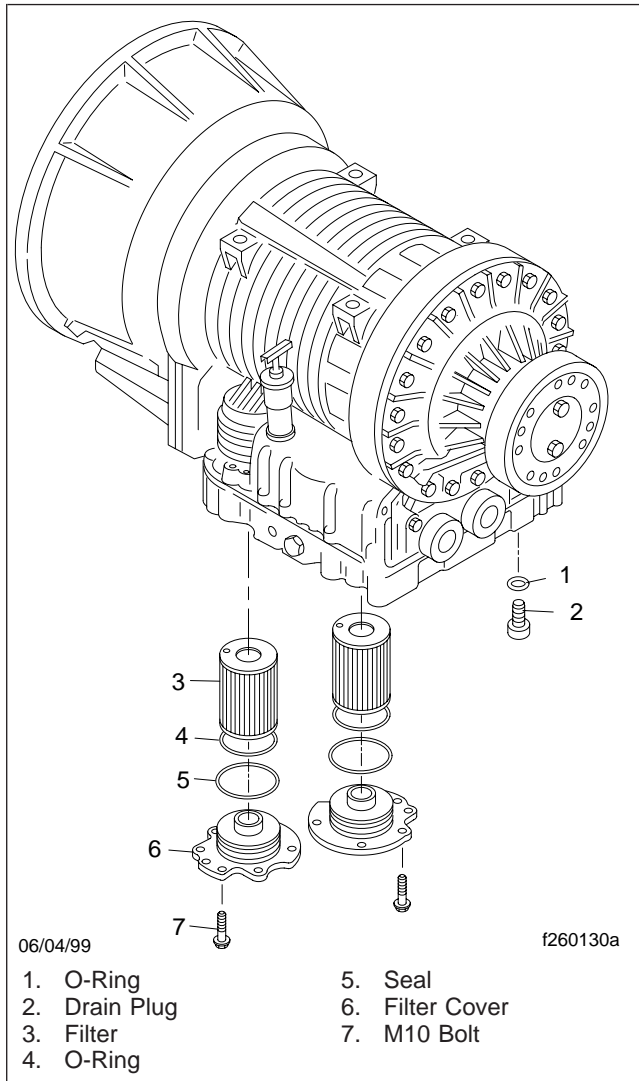
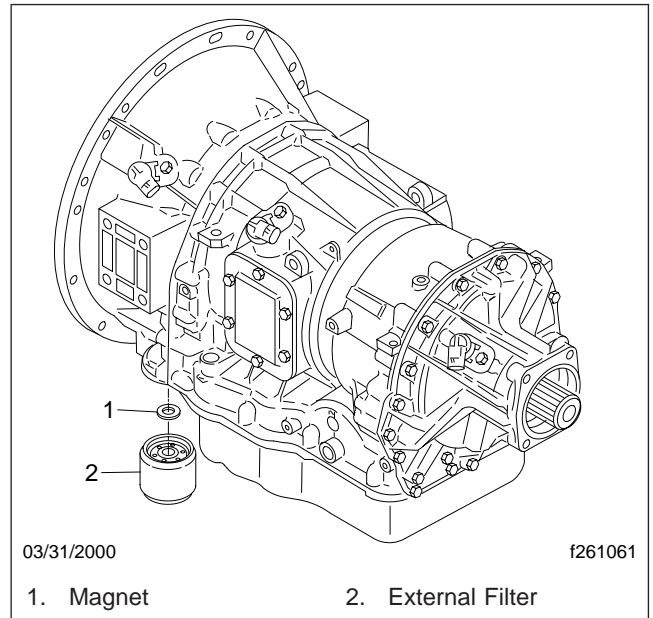

Fig. 3, Allison 3000 MH Transmission Filters
Fig. 4, 1000/2000/2400 MH Series Transmission External Filter
3. Clean the area around the drain plug. See Fig. 3 and Fig. 4. While the transmission fluid is warm, remove the drain plug, and drain the fluid.
4. Remove the bolts from each filter cover at the bottom of the transmission control module. See Fig. 3 and Fig. 4. Remove the filter covers, O-rings, seals, and the two cartridge-type filters.